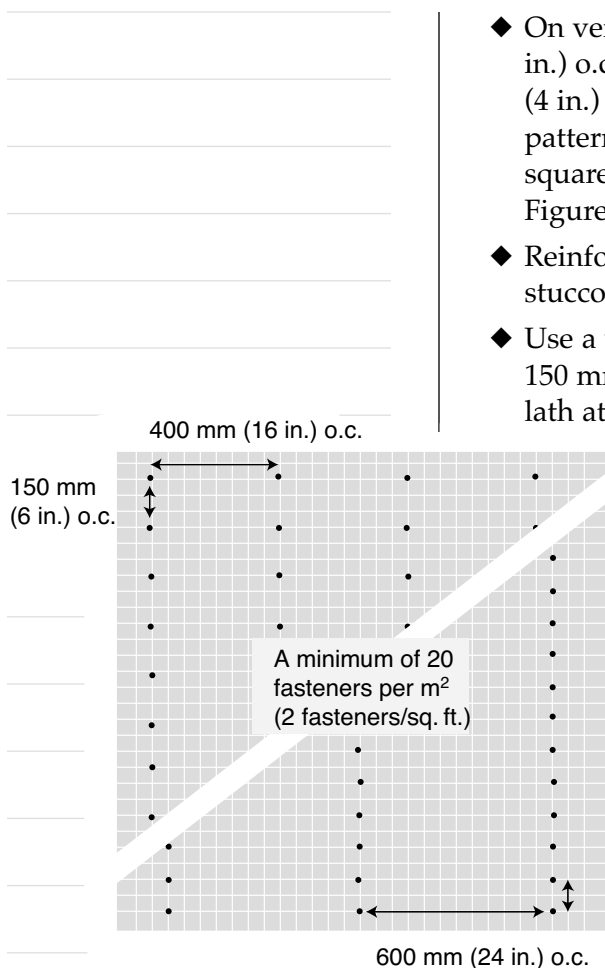

FIGURE 55
- ◆ On vertical surfaces, space lath fasteners not more than 150 mm (6 in.) o.c. vertically and 400 mm (16 in.) o.c. horizontally or 100 mm (4 in.) vertically and 600 mm (24 in.) horizontally. Other fastening patterns can be used as long as there are at least 20 fasteners per square metre (two fasteners per square foot) of wall surface (see Figure 55).